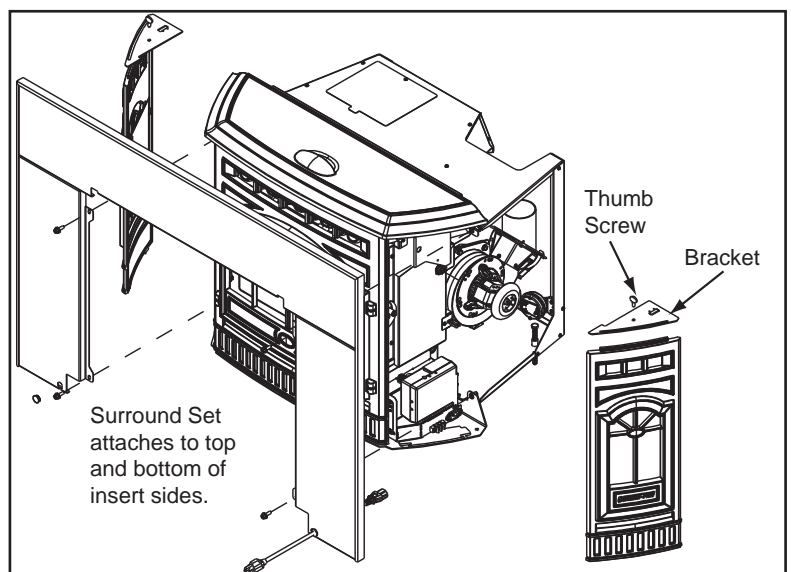

Figure 34.4
4. Remove the cast sides before attaching the surround and trim. Lift up the top to expose the thumb screws at the top of cast side. **Figure 34.4.**
6. Slide surround and trim over the top of the insert into place. Surround attaches to insert at the top and bottom of insert side. **Figure 34.4.**